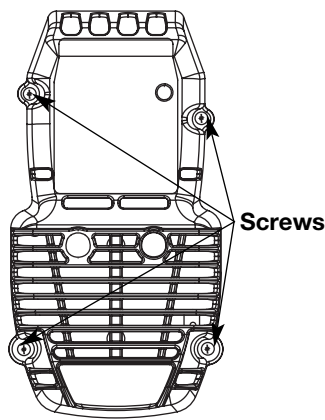

Fig. 17
1. Remove the four (4) screws securing the air filter/muffler cover (Fig. 17). Use a flat blade or T20 Torx bit screwdriver.
2. Insert the four (4) screws into the holes in the air filter/muffler cover (Fig. 17) and tighten. **Do not over tighten.**
9. Reinstall the air filter/muffler cover (Fig. 17).